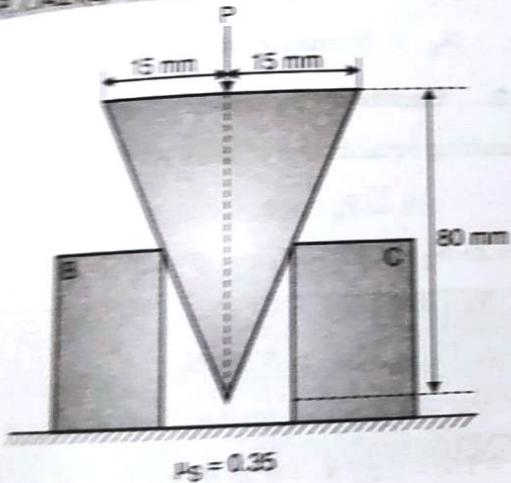

Fig. P. 7.14.24(a)
Q. 7.14.24: A wedge A of negligible weight is to be driven between two 57 kg blocks B and C. Knowing that coefficient of static friction is 0.35 between blocks and horizontal surface and zero between the wedge and each of blocks, determine the smallest force P required to start moving the wedge if the blocks are equally free to move; and if block C is securely bolted to horizontal surface. Refer. Fig. P. 7.14.24(a).